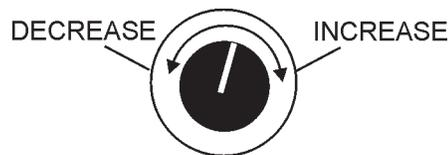

Figure 20. Voltage Regulator Knob
3. Turn the voltage regulator knob (Figure 20) clockwise to increase voltage output, turn counterclockwise to decrease voltage output. Use voltage regulator adjustment knob whenever fine tuning of the output voltage is required